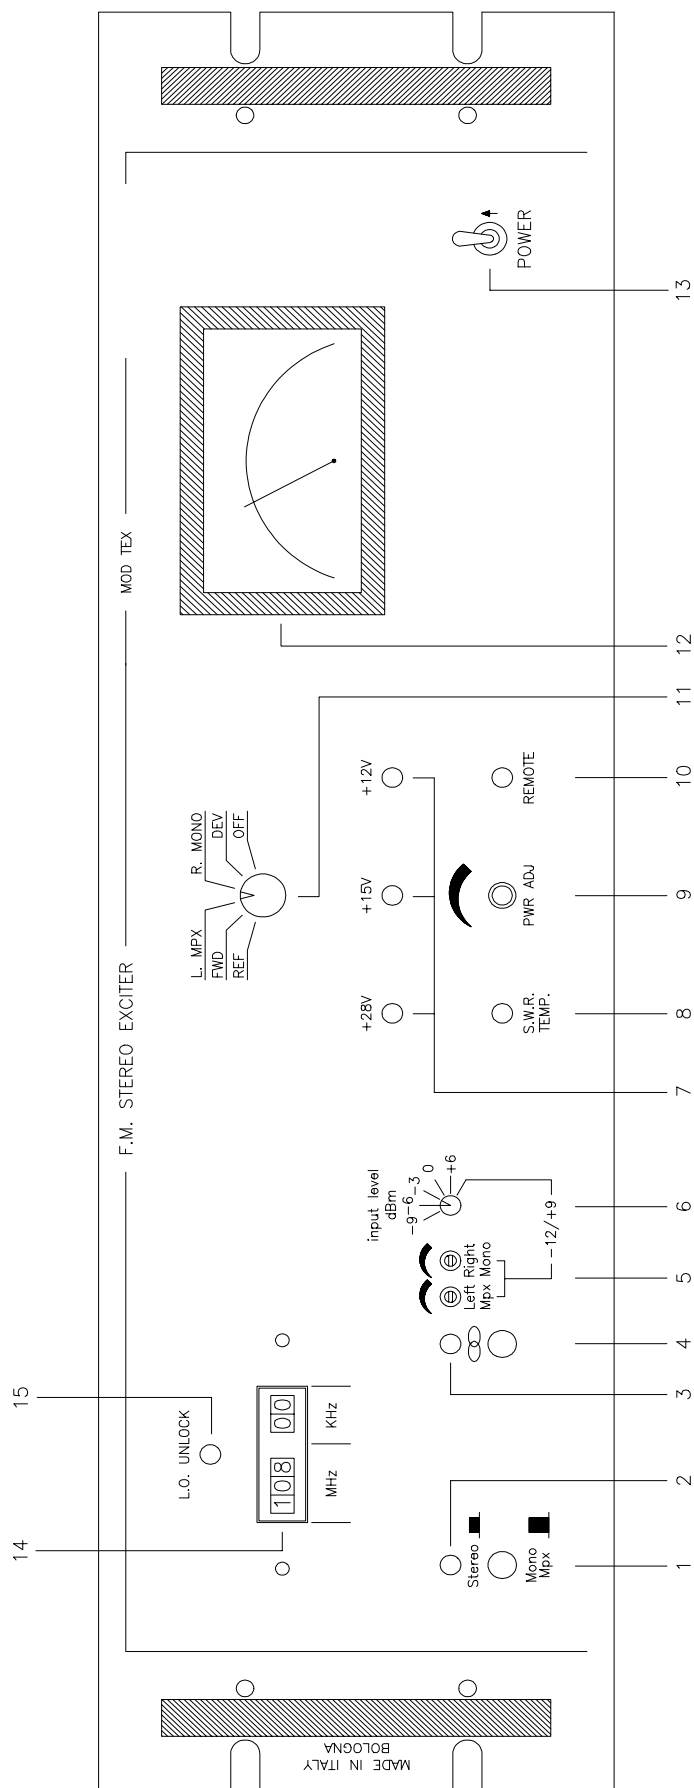

FIG. 1A
FRONT PANEL STEREO VERSION VIEW DESCRIPTION (FIG.1A)
2) Now ensure that the PWR ADJ control (9 Fig.1A or 5 Fig.1B) is rotated fully anti-clockwise, using a small screwdriver. N.B. The control is a ten-turn potentiometer so care should be taken to verify the minimum position.
5) Switch the unit's ON/OFF switch (13 Fig.1A or 9 Fig.1B) to the OFF position.
7) Switch the power On switch (13 Fig.1A or 9 Fig.1B) to the ON position and check that the three green internal voltage led (7 Fig.1A or 3 Fig.1B) and the red UNLOCK led (15 Fig.1A or 11 Fig.1B) are all on. Select the desired operating frequency using the corresponding selector. The red UNLOCK led should switch off within 30 seconds, indicating that the oscillator has locked onto the operating frequency. The frequency selector comprises five figures of which the three to the left of the decimal point represent (from left to right) hundreds of MHz, tens of MHz and MHz. The two figures to the right of the decimal point represent (from left to right) hundreds of KHz and tens of KHz.